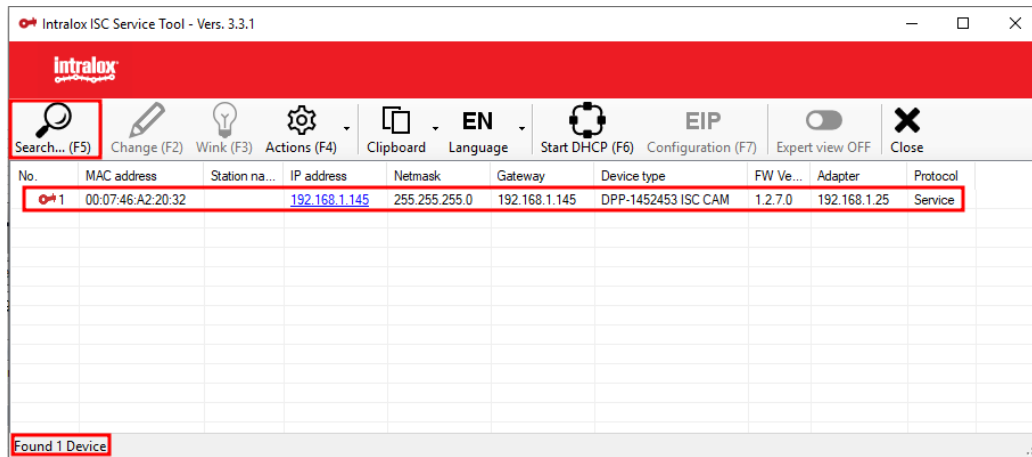

Figure 10: Intralox ISC Service Tool Search
18. Using the "Intralox ISC Service Tool" verify that computer is connected to ISC CAM by clicking "Search" button, Figure 10.
19. If the search is successful then a device will populate in the list with IP Address, Device type, etc., Figure 10.